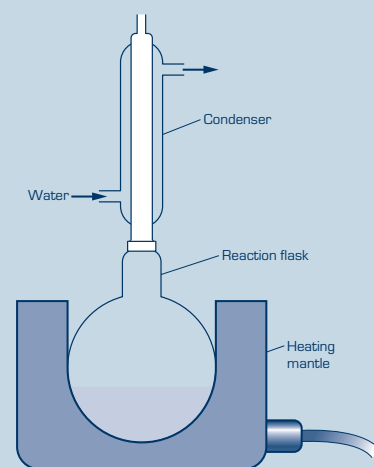

figure sd.8 Reflex apparatus set-up
- 1 Set up the quick-fit reflux apparatus as shown in figure sd.8. To the reaction flask add 5 mL olive oil, 10 g sodium hydroxide pellets and 10 mL water.